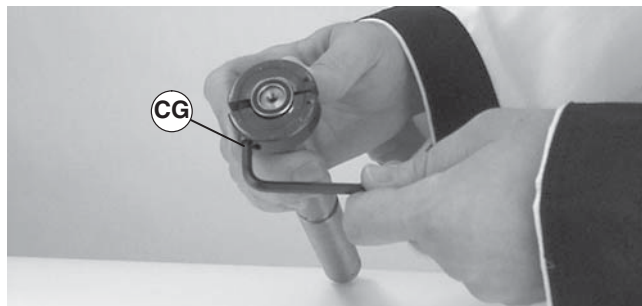

Figure 42
2. Using 3/16" hex key wrench (Figure 42, item CG), tighten bearing removal tool.